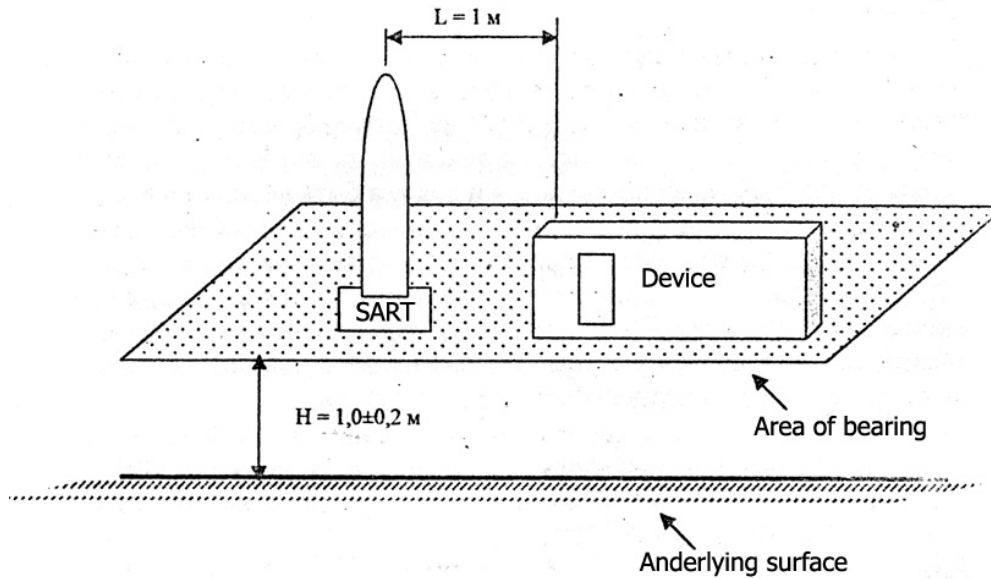
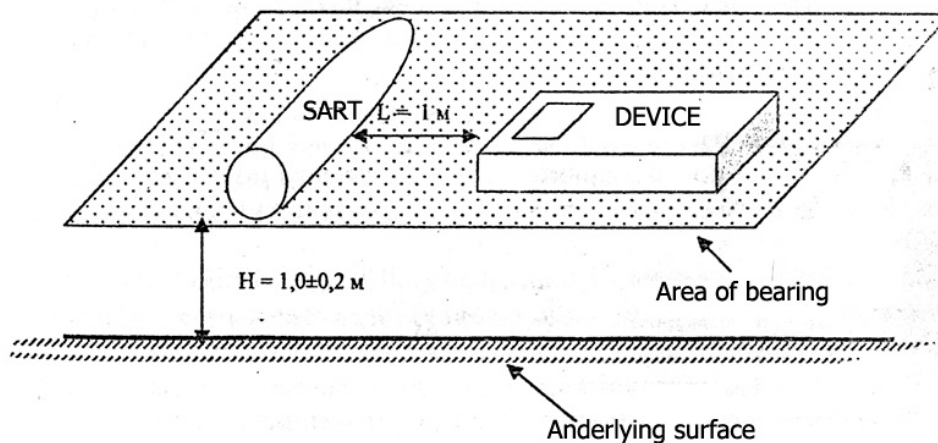

Fig. 1 Diagram of SART parameters measurement (variant 1)
Fig. 2 Diagram of SART parameters measurement (variant 2)
6.1.1 Position SART and the device as shown on the fig.1 or fig.2